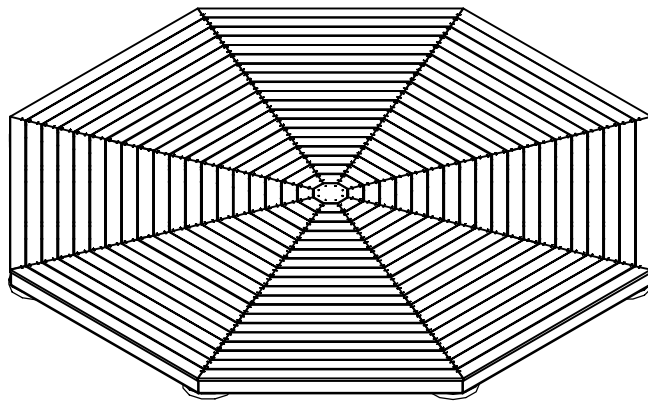

FIGURE S8
- Figure S8 Illustrates finished Floor Decking.